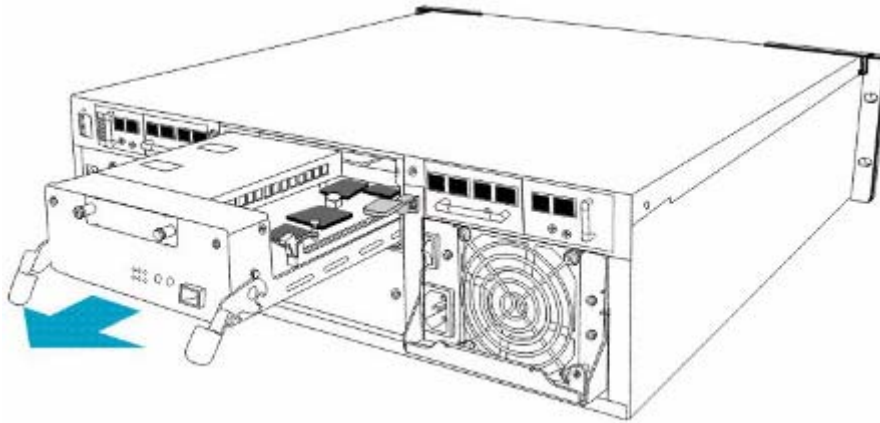

Figure 5-3: Removing the Controller Module
Step 4. Gently pull the controller module out of the subsystem. Use another hand its weight if the subsystem is mounted in a rack cabinet. Place the controller module on a clean surface. (See *Figure 5-3*)